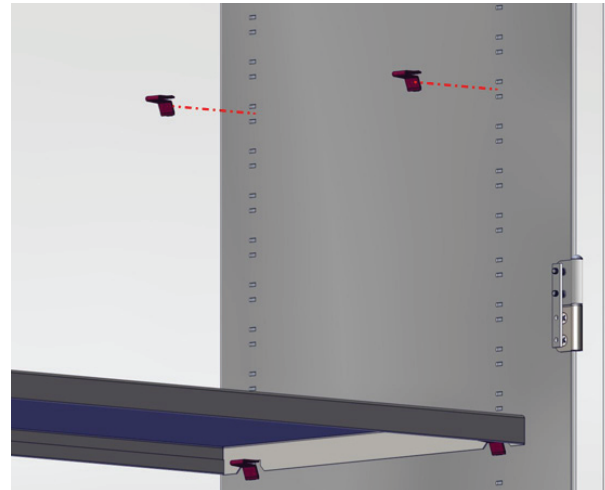

Fig. 19: Remove support clips
3. Remove the four (4 per shelf) shelf supports clip by tilting the clip upwards and lifting out (Fig. 19).